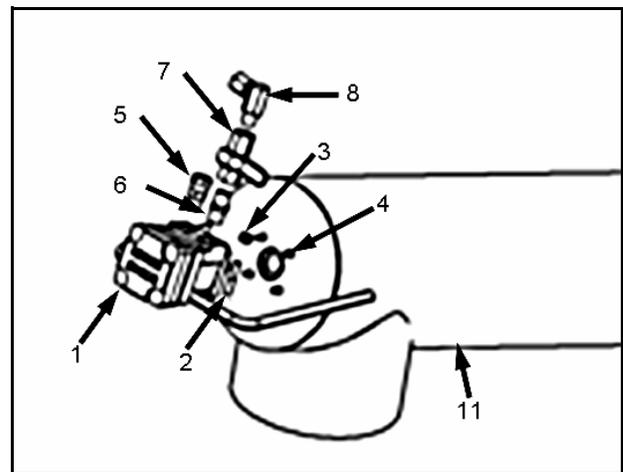

Figure 3.7
3. **For 10" and 13" closed center hydraulics only:** Install 1/2" nipple (6), 1/2" ball valve (7), and 1/2" elbow (8) on pressure side, and 1/2" swivel (5) on return side (see Figure 3.7).